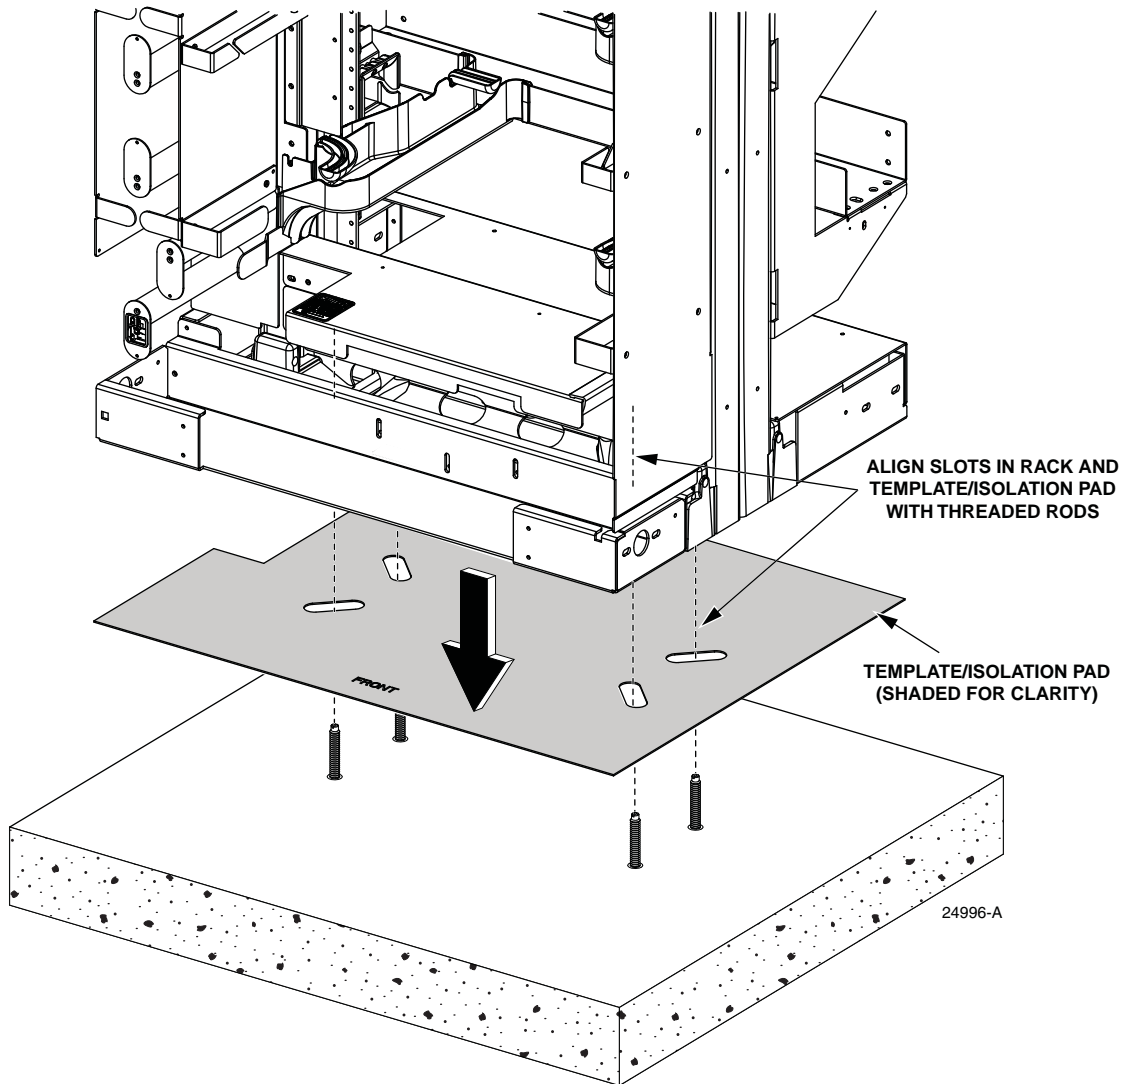

Figure 11. Positioning Isolation Pad and Frame
8. Position the isolation pad and frame on the concrete, as shown in Figure 11.